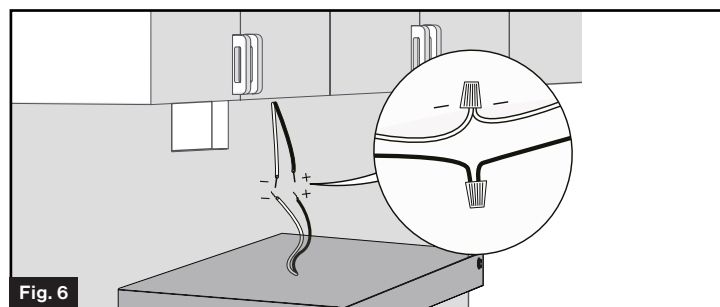

Fig. 6
6. Connect the vent hood white wire negative (-) to the incoming power supply negative (-) wire and the vent hood black wire positive (+) to the incoming power supply positive (+) wire. (Fig 6)